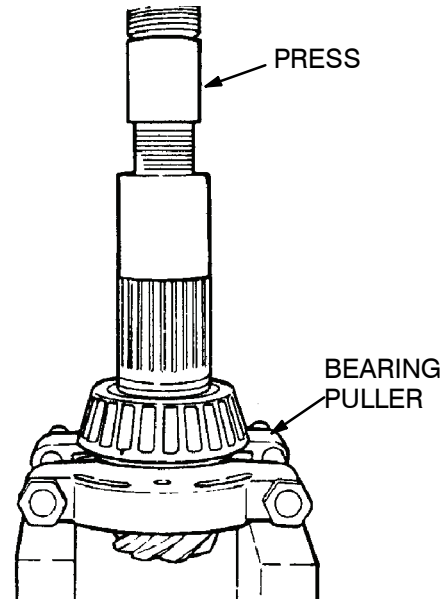

Figure 41. Inner Bearing Cone Removal.
- (4) If necessary, remove the inner bearing cone from the drive pinion. Put a bearing puller under the inner race to support the bearing. Put a protector on top of the pinion shaft and press the drive pinion out of the bearing cone. Figure 41.